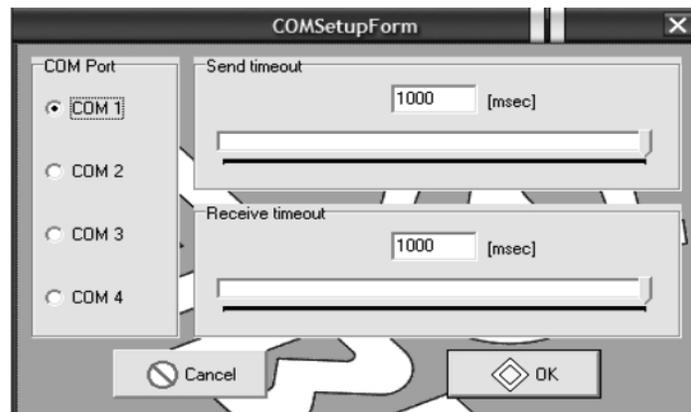

Figure 2.3: Communications Port Settings
5. Start the EL6 Win 2 software (Start ⇒ Programs ⇒ EL6/FM7 Win 2 ⇒ EL6/FM7 Win 2). On the top menu, click Communication, then Com Setup. The dialog box shown in figure 2.3 on page 7 appears.